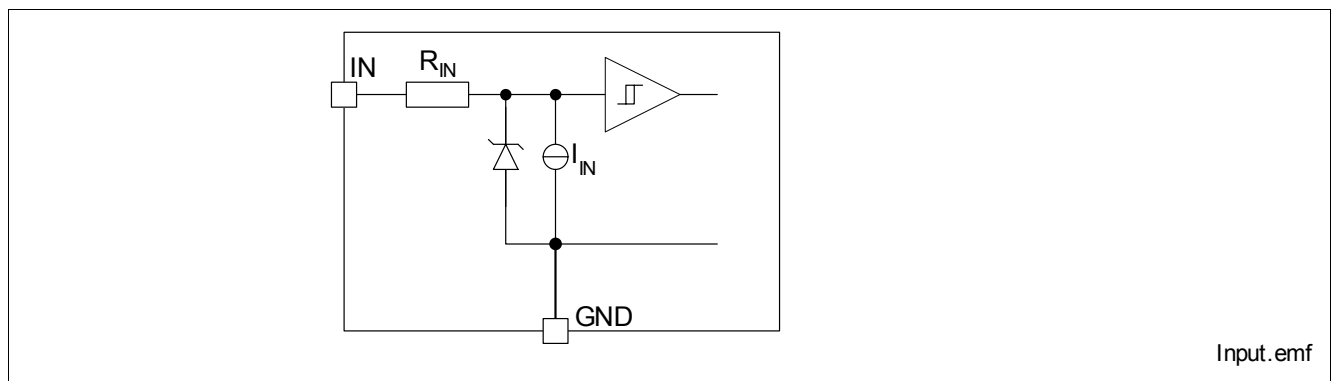

Figure 5 Input Circuit (IN1 and IN2)
**Figure 5** shows the input circuit of the BTS5246-2L. There is an integrated input resistor that makes external components obsolete. The current sink to ground ensures that the device switches off in case of open input pin. The zener diode protects the input circuit against ESD pulses.
The CLA pin circuit is similar to the input pin. Please refer to **Figure 5** for details. Please note that the thresholds for high and low state differ between  $IN$  and  $CLA$ .